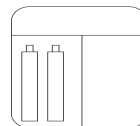
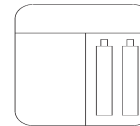

Fig 1
Fig 2
- Insert the round cell batteries in pairs (see figure 1 and figure 2) into the charger.